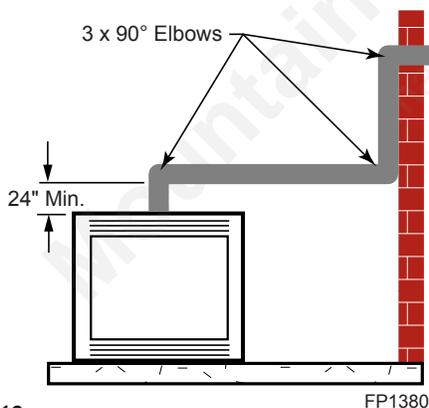
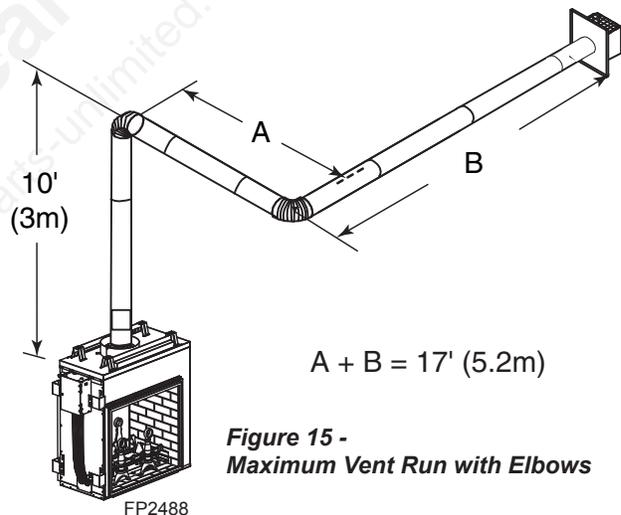

Figure 13 -
Figure 15 -
- The maximum number of 90° elbows per side wall installation is three (3). *Figure 13*
- If a 90° elbow is used in the horizontal vent run (level height maintained) the horizontal vent length is reduced by 36". Refer to *Figures 13 and 14*. This does not apply if the 90° elbows are used to increase or redirect a vertical rise. *Figure 15*
In *Figure 15* dimension A plus B must not be greater than 17' (5.2 m).